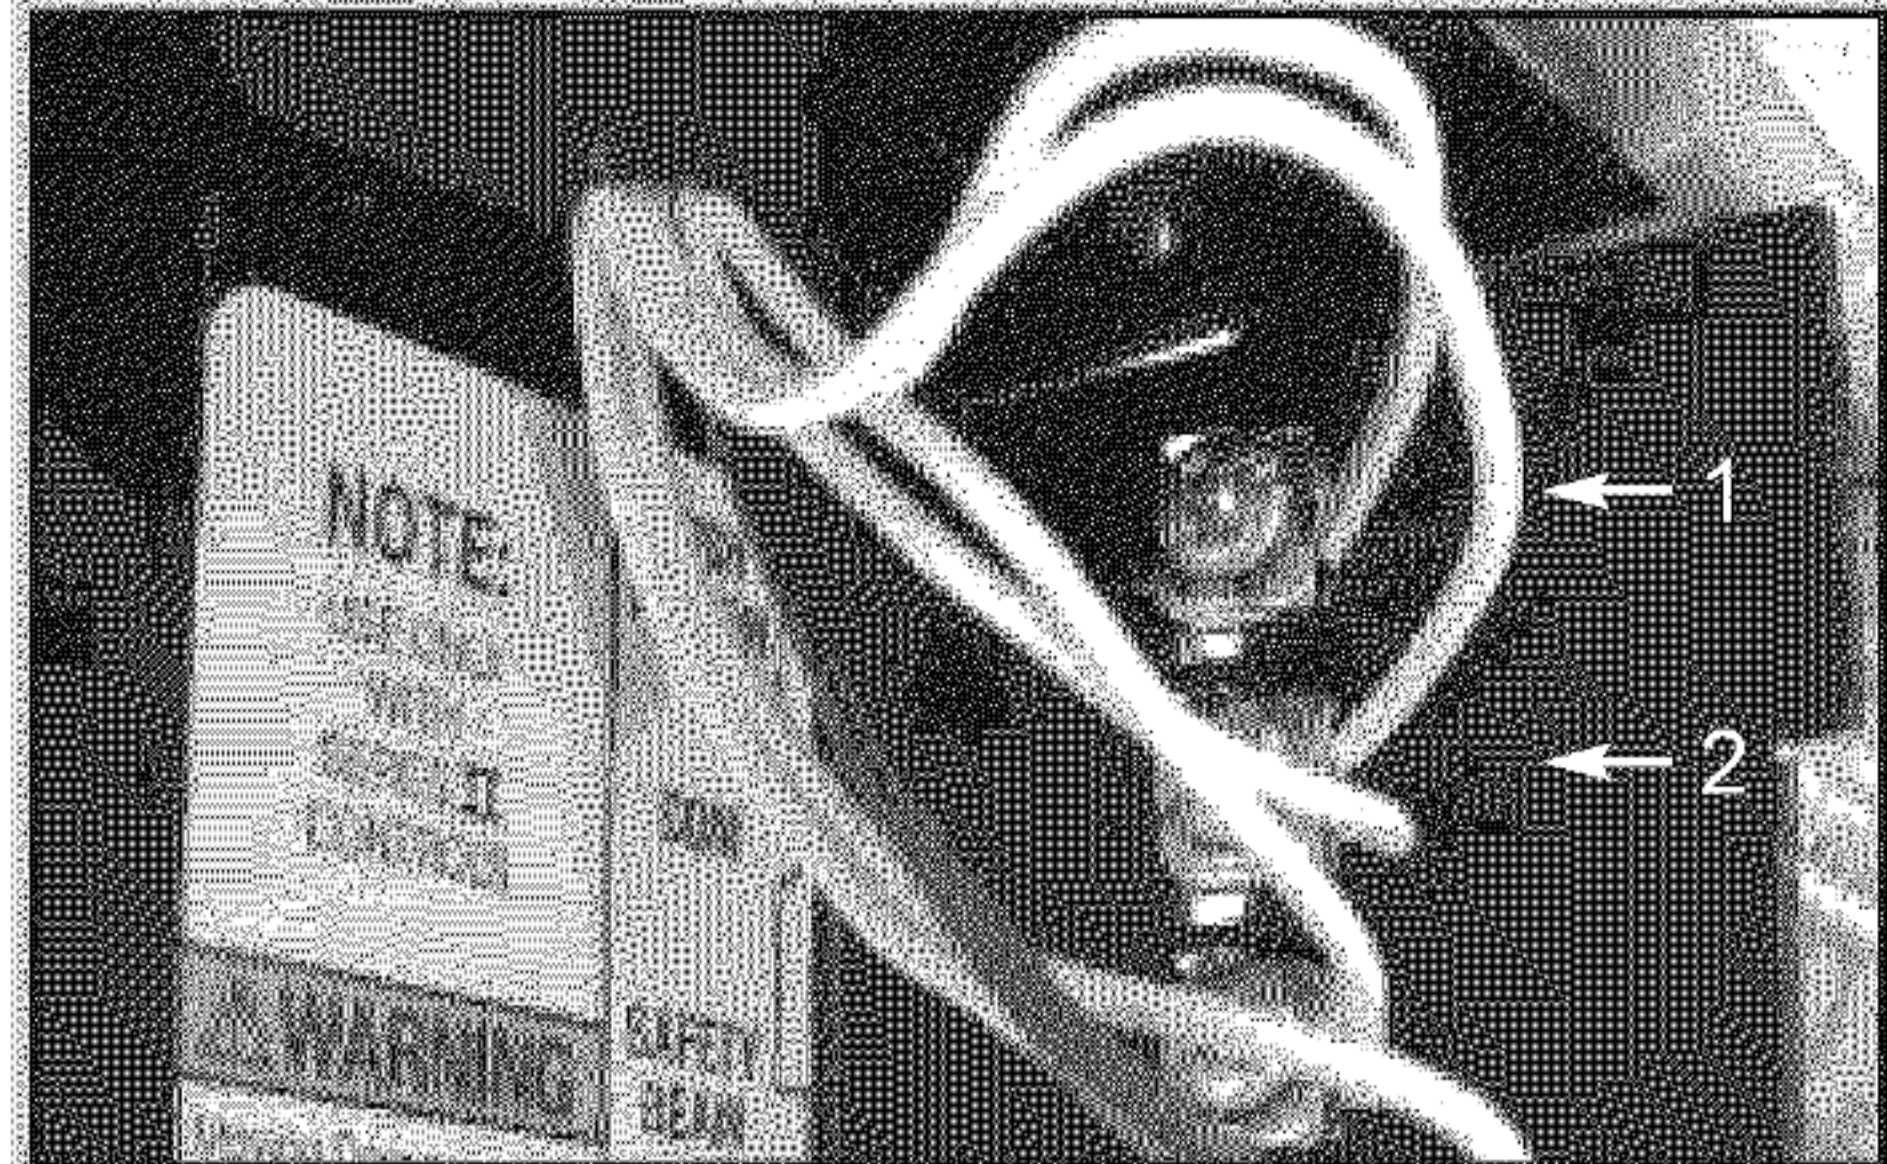

FIG. 5-1 Terminal attachments at power head.
- Attach the **striped wire to terminal #1** and **white wire to terminal #2** (Fig. 5-1).